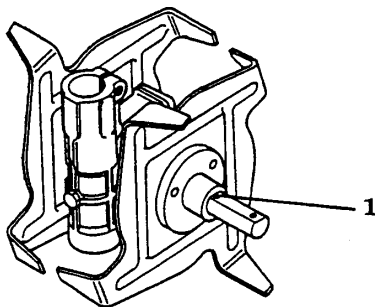

FIG. 10
1. (FIG. 10) Start with the left side. Select the tine that is stamped with a "B". Install the tine (on the left tine shaft) with the hub facing to the left (outward).
NOTE. (FIG. 10) The two inner tines may be used alone for a reduced tilling width (6"), as opposed to the full 9" width with all four tines attached. To secure the two inner tines, insert the snap pins through the inner (1) set of holes in the shaft.